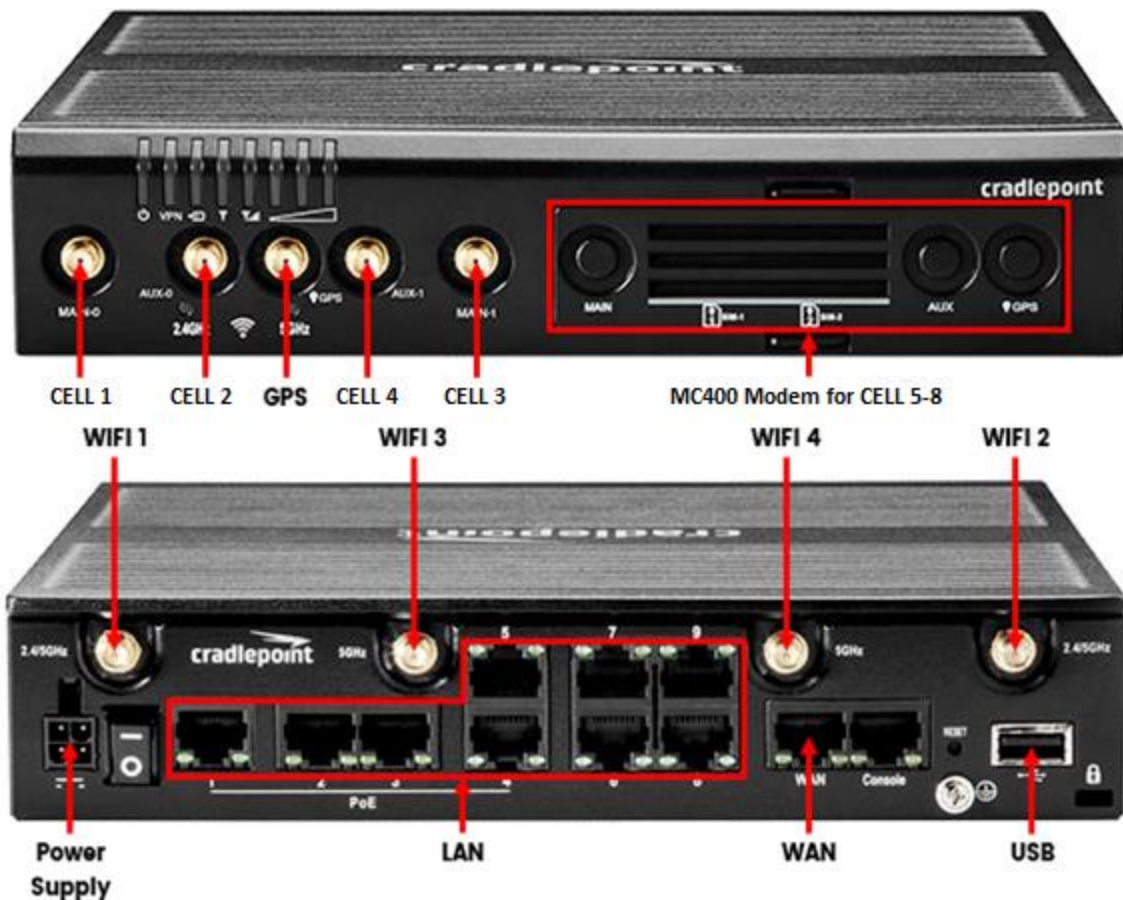

Figure 8: Cradlepoint AER2200 Connections
- A. Connect the router power supply to the power supply port on the router, shown in Figures 8, 9 & 10.
- A. Connect the provided ethernet cords to the LAN and WAN ports on the router, shown in Figures 8, 9 & 10.
- C. For transferring data to external devices, connect the other end of the USB-A cord into the USB-A port on the router, shown in Figures 8, 9 & 10.